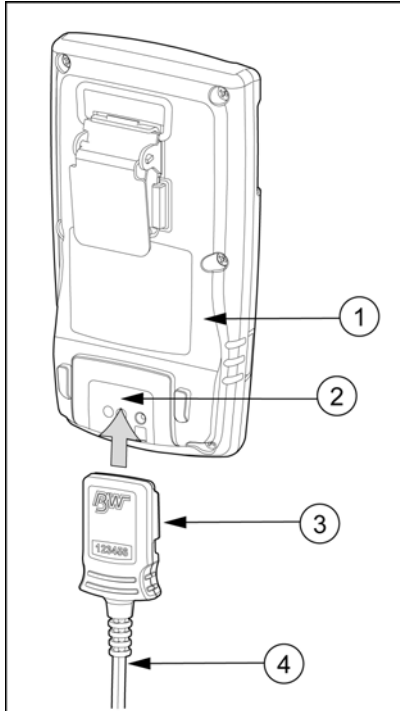

Figure 8. Connecting the Charging Adapter
To charge the battery, refer to Figure 8, Table 13, and the following procedures (1-8).
3. Attach the charging adapter to the charger interface. Refer to Figure 8.